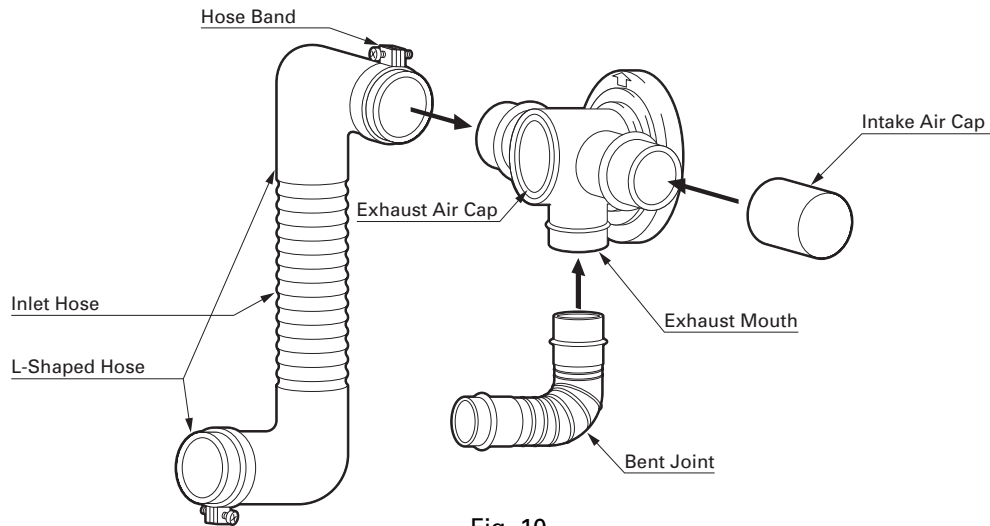

Fig. 10
7. Insert the bent joint to the exhaust mouth of the flue pipe. Cut the inlet hose for desired length if necessary. Attach the L-shaped hose to each end of the inlet hose and attach the L-shaped hose to the intake mouth of the flue pipe. Secure the L-shaped hose to the intake mouth with the hose band. Plug the unused exhaust and intake mouth with the caps provided with the heater. Make sure the caps fit tightly onto the mouth (See Fig. 10).